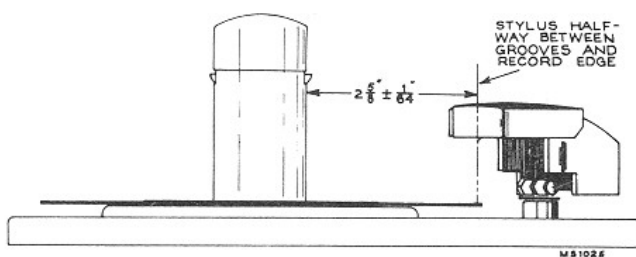

Fig. 36
4. Loosen clamp screw (G) and move pickup arm so the stylus is approximately $2\frac{5}{8}$ " from side of centerpost. Tighten clamp screw. (See Figs. 36, 39.)